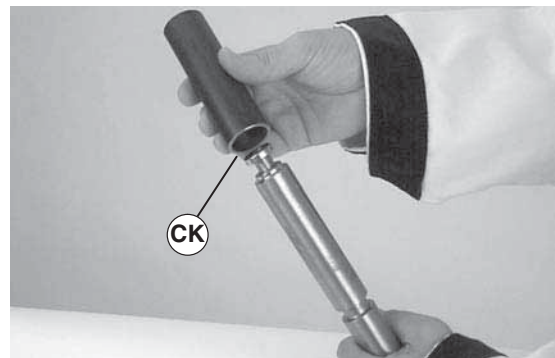

Figure 45
3. Slide the sleeve of tool (part # 450282) (Figure 45, item CK) over bearing.